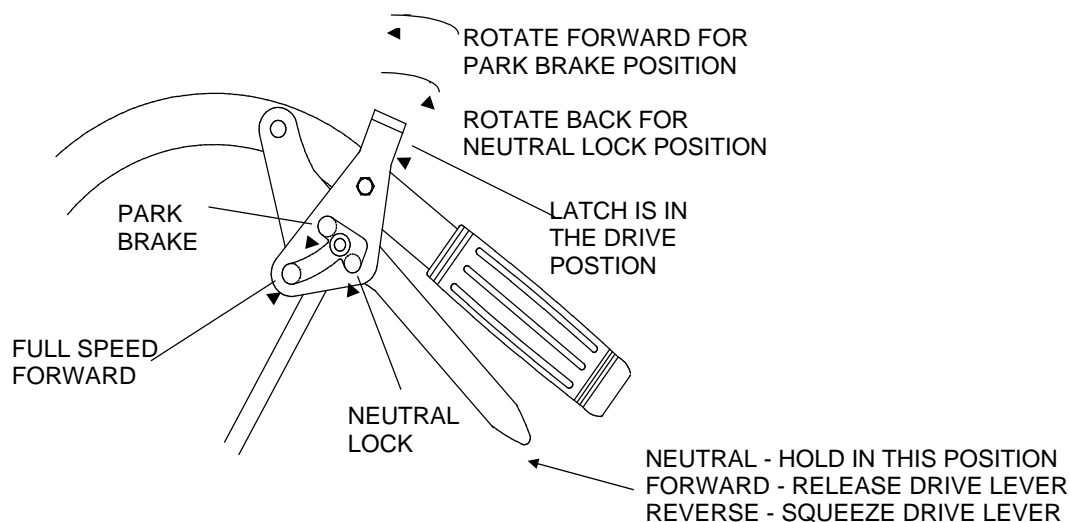
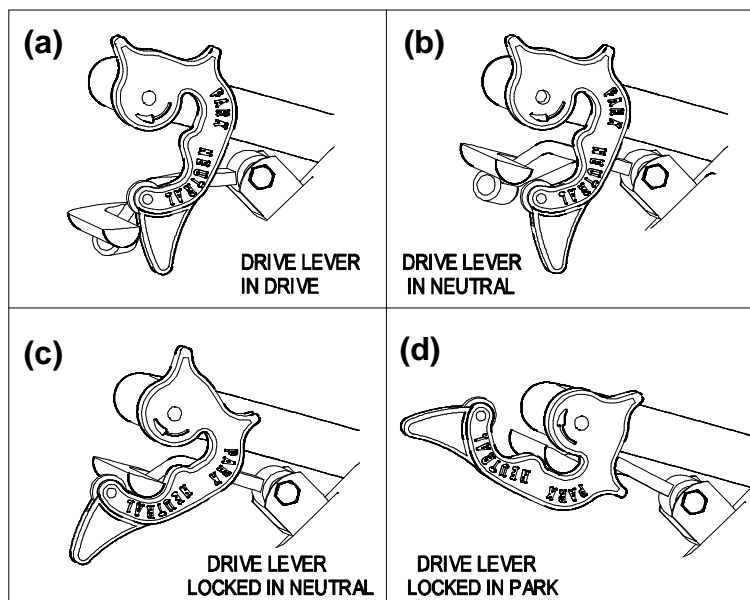

FIGURE 15
FIGURE 16
- 3.14 Adjust brakes by adjusting wingnut on the upper end of each brake rod. Tighten the wingnut until the brakes engage when the drive levers are squeezed enough to allow the neutral lock/park brake latches to be placed into the “park brake” position. See Figure 15 for Standard Pistol Grip handles and Figure 16 for ECS handles.
For Pistol Grip Handles: To lock the drive levers in “neutral”, squeeze the drive levers back to the neutral position. Place thumbs on the upper portion of the neutral lock/park brake latches and move them to the rear. Release the drive levers (See Figure 15).
To lock the levers in “park brake”, squeeze the drive levers back to the brake position. Place thumbs on the upper portion of the neutral lock/park brake latches and move them to the front. Release the drive levers (See Figure 15).
For ECS Handles: To lock the drive levers in “neutral lock”, squeeze the drive levers to the “neutral” position. See Figure 16 (b). Place thumbs on the inner thumb lobe of the neutral lock /park brake latches and rotate them to the “neutral” position. See Figure 16 (c). Release the drive levers.
To lock the drive levers in “park brake”, squeeze the drive levers farther to the “brake” position. Place thumbs on the inner thumb lobe of the neutral lock/park brake latches and rotate them to the “park” position. See Figure 16 (d). Release drive levers.
To place the drive levers in the “drive” position, slightly squeeze the drive levers while placing thumbs on the outer thumb lobe of the neutral lock/park brake latches (or the index finger on the front lobe) and rotate them from under the drive levers. **Slowly** and **carefully** release the drive levers. See Figure 16 (a).